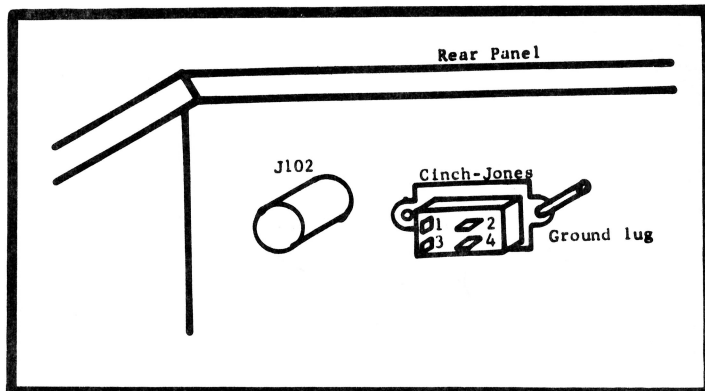

FIGURE 4. Cinch-Jones Socket Mounted to Model 240A. The socket, located in the rear panel, is used for remote programing.
a. Remove the plate over the punched hole on the Model 240A rear panel. This hole accepts a Cinch-Jones 300 series chassis mounting socket (Mfg. No. S-304-AB). Mating plug is a Cinch-Jones plug with cable clamp (Mfg. No. P-304-CCT). Use these connectors or their equivalents. Mount the connector on the rear panel as shown in Figure 4. Use a lug to ground the connector to the Model 240A chassis.
a. Remove the plate over the punched hole on the Model 240A rear panel. This hole accepts a Cinch-Jones 300 series chassis mounted socket (Mfg. No. S-304-AB). Mating plug is a Cinch-Jones plug with cable clamp (Mfg. No. P-304-CCT). Use these connectors or their equivalents. Mount the connector on the rear panel as shown in Figure 4. Use a lug to ground the connector to the Model 240A chassis.